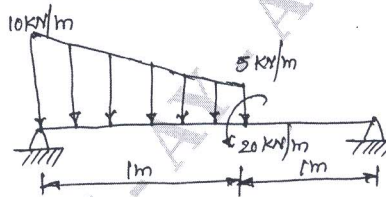

Fig.Q6(a)
- 6 a. For the beam loaded as shown in Fig.Q6(a), determine deflection and shape. Also find the shear force and BM. Take $E = 70 \text{ GPa}$ and $I = 4 \times 10^{-6} \text{ m}^4$.